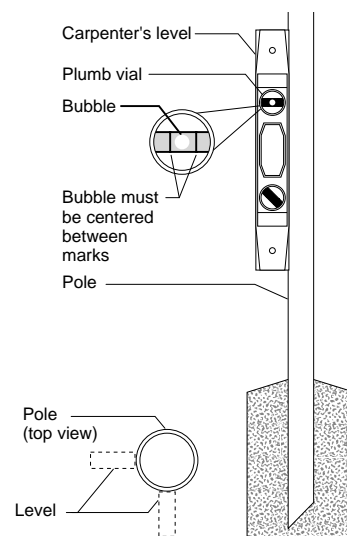

Figure 28
4. With the carpenter's level, plumb the pole along its side. Use at least two different locations at right angles to each other (see Figure 28).